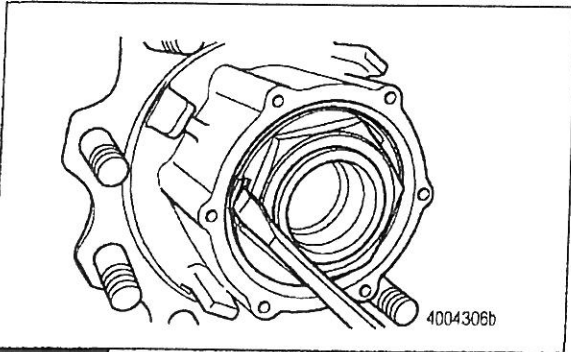

Figure 7
1. Use a screwdriver to release the stakes from the stake washer flange. Figure 7.